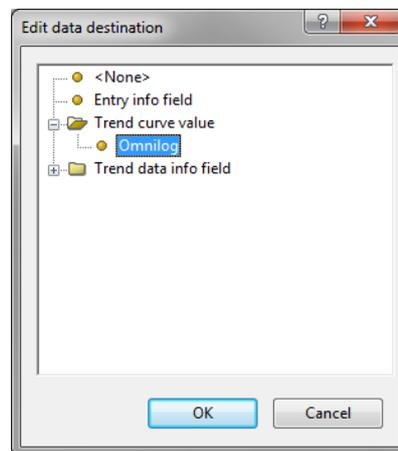

Figure 6: The *Edit data destination* dialog box.
8. Press **<Edit destination>**, select "Omnilog" under *Trend curve value* as destination and click **<OK>** (see Figure 6).